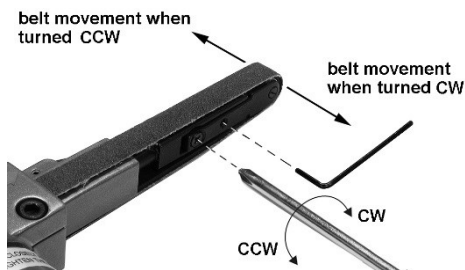

Figure 2
2. Loosen set screw with 1.5mm hex wrench (not provided). See Figure 2.